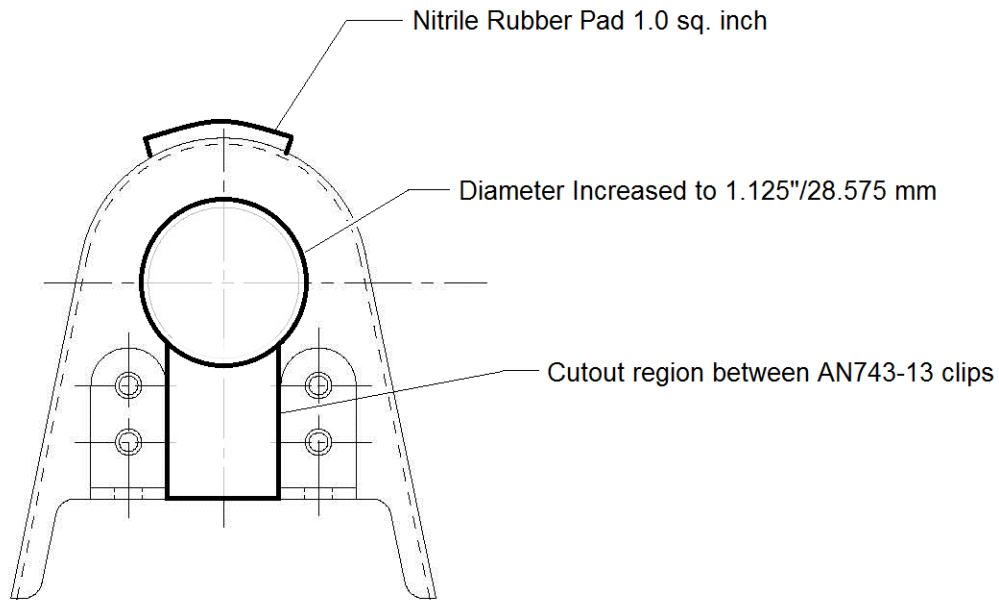

FIGURE 2. PULLEY GUARD OPTIONAL MODIFICATIONS
- 2) Using a suitable metal cutting tool, cut out the area of the pulley guard between the clips (refer to Figure 2).
- 4) The pulley guard hole may be machined to a maximum 1.125 inch/28.575 mm diameter (refer to Figure 2).
- 2) Install the rubber pad with Loctite 4212 adhesive, or equivalent (refer to Figure 2).